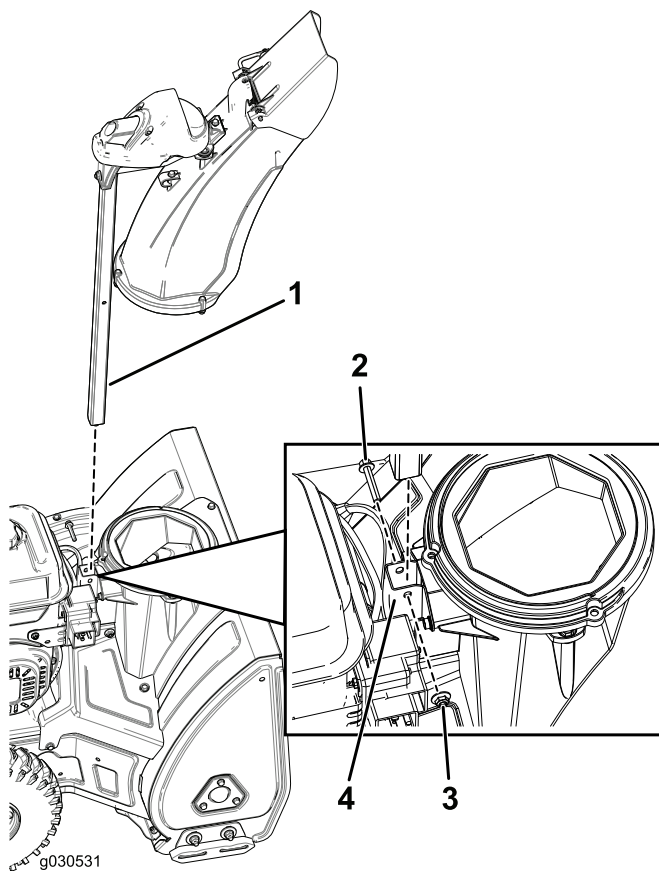

Figure 4
1. Insert the chute post through the bracket into the base of the machine and secure it using a bolt and a lock nut (Figure 4).